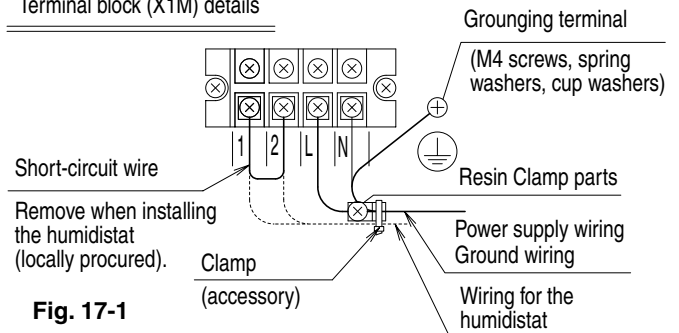

Fig. 17-1
- Pass the power supply wiring and the ground wiring through the wiring through-hole into the electrical parts box and secure with the included clamping material after connecting the wires to terminal blocks. (Refer to Fig. 17-1, 17-2)
- Secure with cramping material together with the power wire. (Refer to Fig. 17-1)